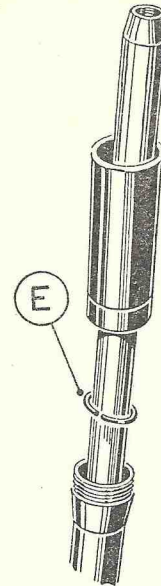

Fig. X3.
The top fork bearing is retained in the fork leg by a circlip (E) Fig. X3, which can be prised out with a sharp tool such as the tang end of a file. There may be a number of shims fitted between the circlip and the top bearing. These must be replaced if the bushes are not renewed when assembling.